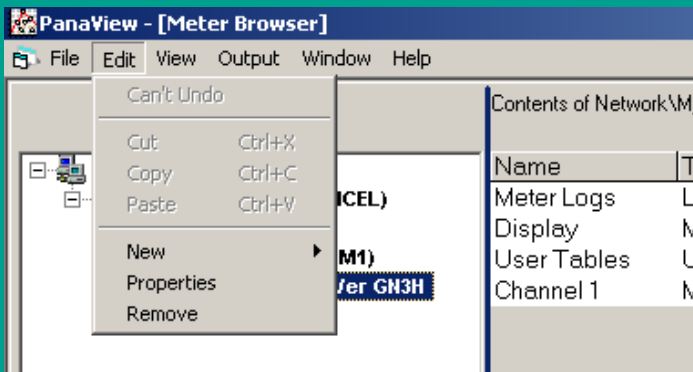

Figure 25: Properties option in the edit menu
2. Open the "edit" menu and select the "properties" option, as shown in figure 25.